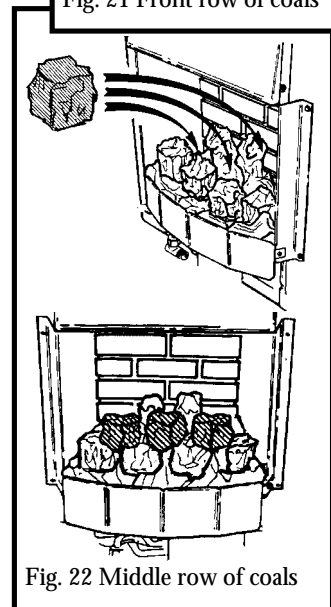

Fig. 22 Middle row of coals
11.4.2 Place the three remaining medium size coals behind and approximately midway between each of the coals in the front row (See figure 22).